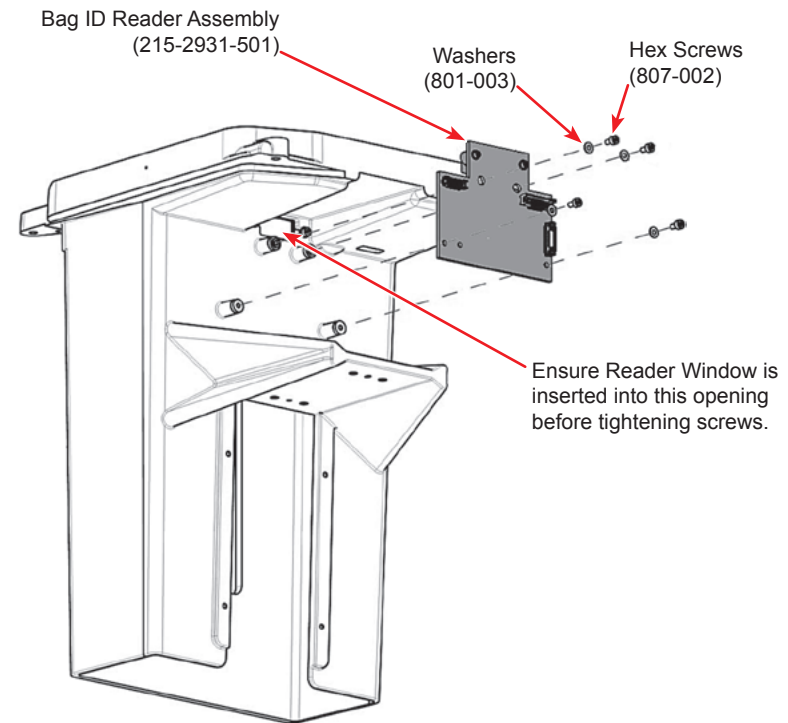

Figure 3-79 Active Irrigation Bag ID Reader PCB Removal
- 58.2 Remove four 2.5 hex screws and washers securing Bag ID Reader PCB to AI Module (see Figure 3-79).